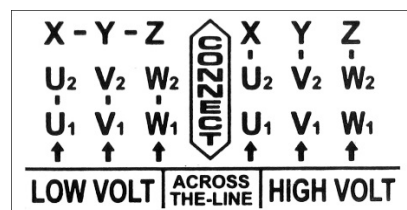

Figure 6-1
1. Remove junction box cover on motor and change wires according to diagram found on inside cover (also shown in Figure 6-1).